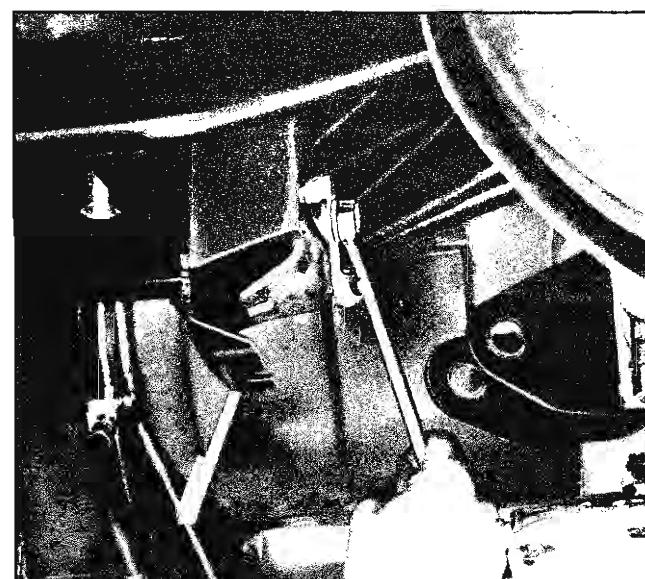

Fig 3-38 Removing Support Crossmember to Rear Crossmember Bolts
6. Remove crossmember by removing six trans-axle support crossmember to insulator bolts (Fig. 3-38).